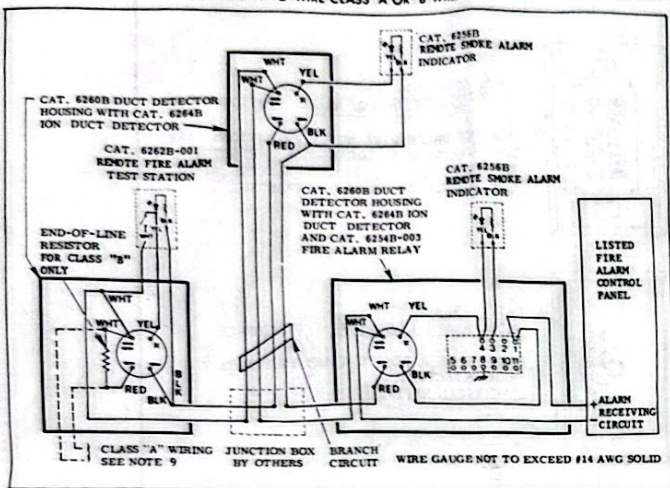

FIGURE 2 FOUR-WIRE CLASS B WIRING
- WHEN INSTALLING DUCT DETECTORS IN A 4-WIRE CLASS "B" CIRCUIT USE BOTH AN END-OF-LINE RESISTOR (IN THE INITIATING CIRCUIT) AND A FIRE ALARM RELAY (CAT. 6254B-003) AS THE END-OF-LINE POWER SUPERVISION RELAY AT THE END OF THE POWER SUPPLY CIRCUIT AS SHOWN IN THE WIRING ILLUSTRATION. SEE FIGURE 2.